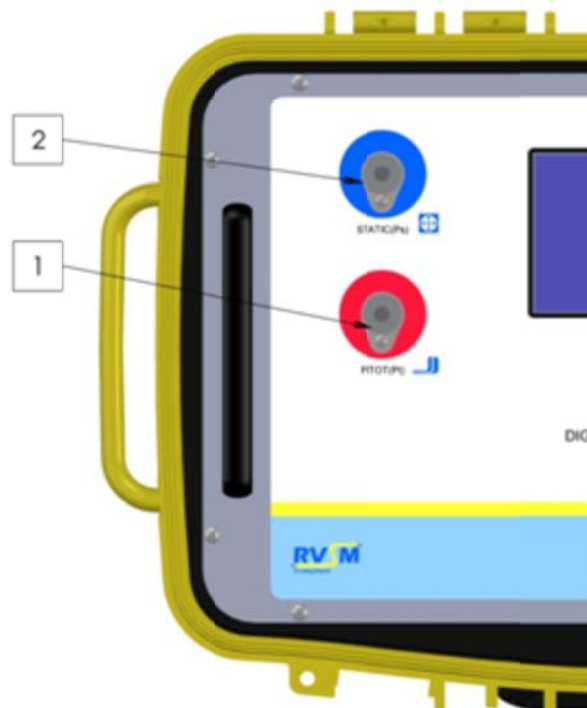

Figure 10 DPS1000 PRESSURE CONNECTIONS
A. Front Panel Switches and Controls (Components shown in Figure 10).